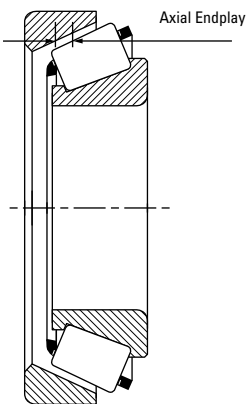

Fig. 84. Internal clearance – endplay.
- **Endplay (EP)** – An axial clearance between rollers and raceways producing a measurable axial shaft movement when a small axial force is applied – first in one direction then in the other, while oscillating or rotating the shaft. See fig. 84.
- **Preload (PL)** – An axial interference between rollers and raceways such that there is no measurable axial shaft movement when a small axial force is applied – in both directions – while oscillating or rotating the shaft.